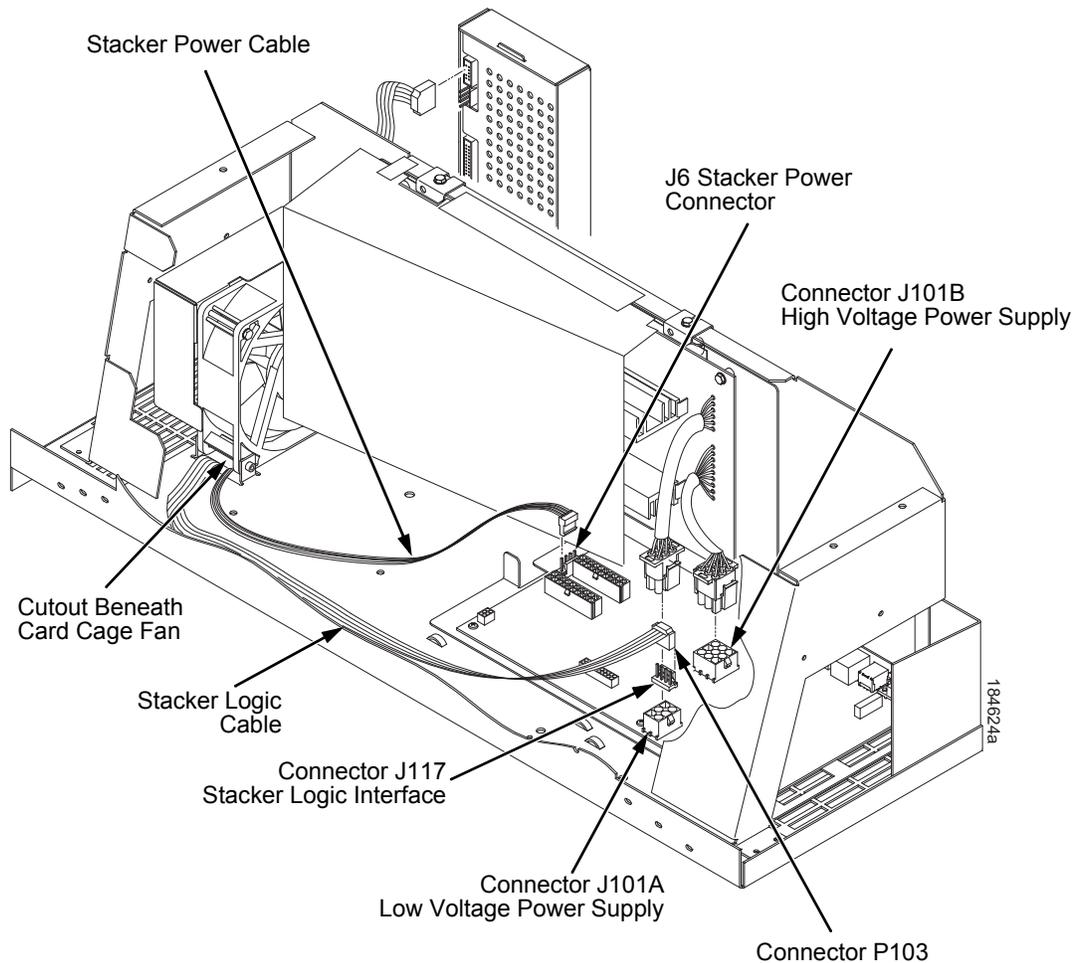

Figure 15. Power Stacker Connections on the PSA3 Controller Board
5. Connect the power stacker logic cable P103 to connector J117 on the controller board. (Figure 15.)
6. Connect the stacker power cable P6 to J6 on the controller board. (Figure 15.)
7. Route the stacker logic cable in front of the controller board and down through the cutout under the card cage fan. (Figure 15.)
8. Route the stacker power cable from J6 over to the logic cable (item 7 above) and then along the logic cable and down through the cutout under the card cage fan. (Figure 15.)